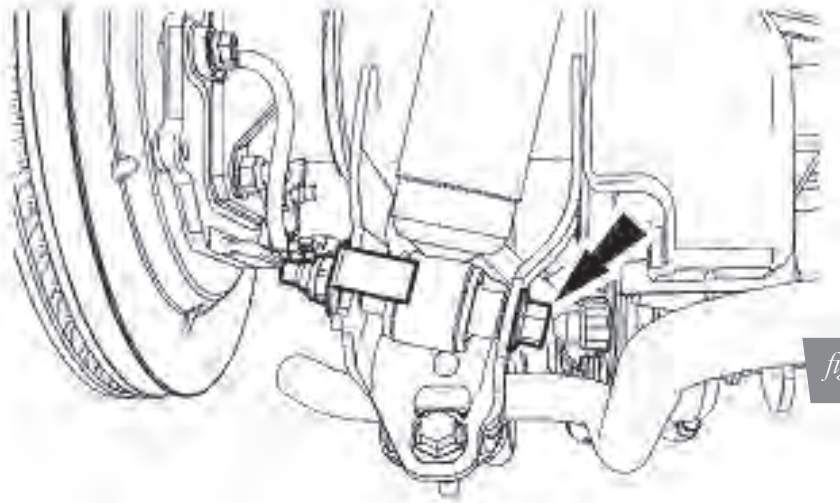

fig. 4
3. With the axle supported, remove the lower shock bolts (Fig. 4).